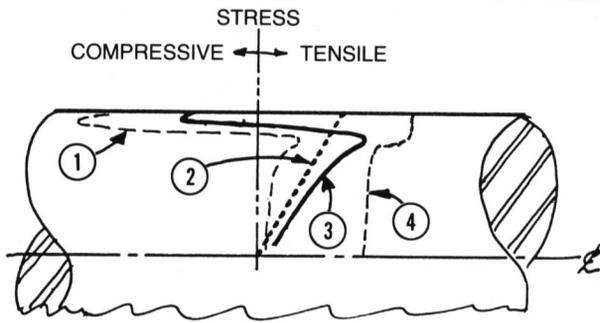
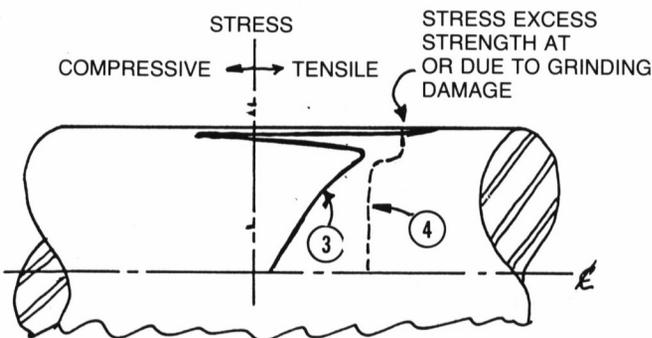

FIG. 3
FIG. 4
"The algebraic relationship between stress and strength distributions are major concerns to design engineers. Ideally, the goal is to reach a condition where stress never exceeds strength, as illustrated in Figure 3. In Figure 3, if any portion of (3) (stress) exceeds any part of (4) (strength), failure will occur. It can initiate subsurface as well as at the surface. A surface-initiated failure is shown in Figure 4.